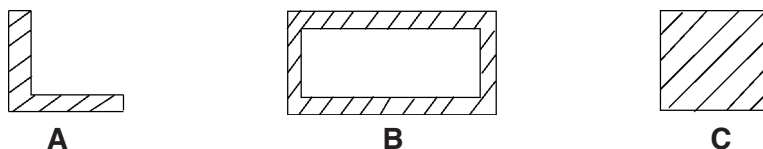

Fig. 8
- 8 Metals are obtained in various cross sections as shown in **Figure 8**.